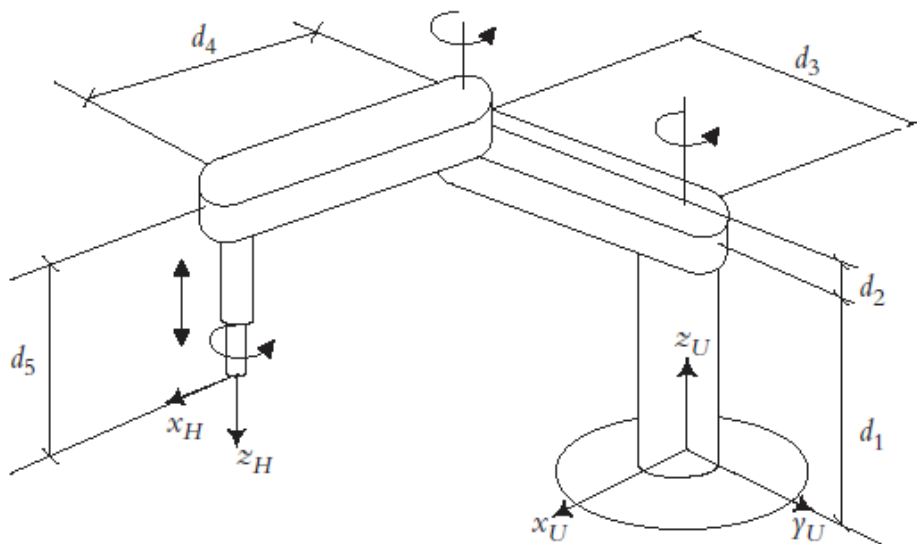

Figure 1
1. Figure 1 shows a schematic of a SCARA robot consisting of 3 revolute joints and one prismatic joint.
Based on the robot shown in Figure 1, answer the following questions: